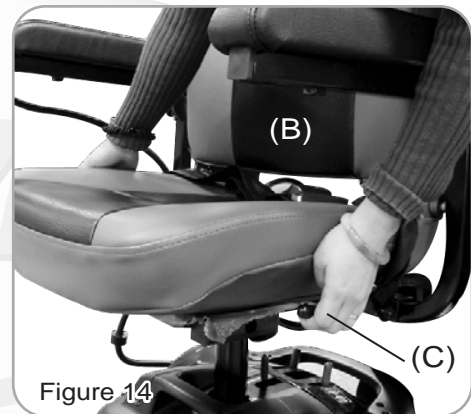

Figure 14
Remove the Battery Pack (E) by holding the Battery Pack with one hand and the other hand pushing the Release Lever (F) to the rear of the chair. (See Fig. 14)